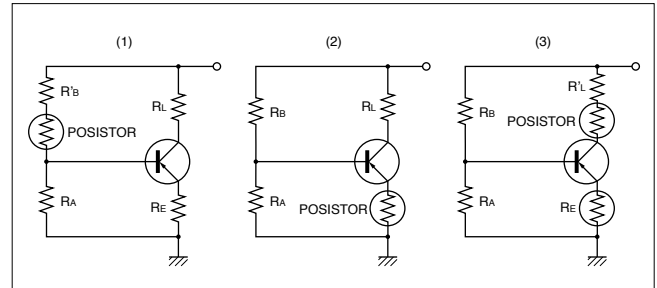

Fig. 12 Temperature compensation and protection of transistor
Fig. 12(1) shows a basic circuit for temperature compensation. In biasing the transistor, the resistance of POSISTOR is used. If the transistor overheats, the POSISTOR will heat up as well. As the POSISTOR passes the  $C_p$ , it will go high resistance and unbiased the circuit, and turning off the transistor. In case of Fig. 12(2) and 12(3), it also can be used as an over heat sensor as well.